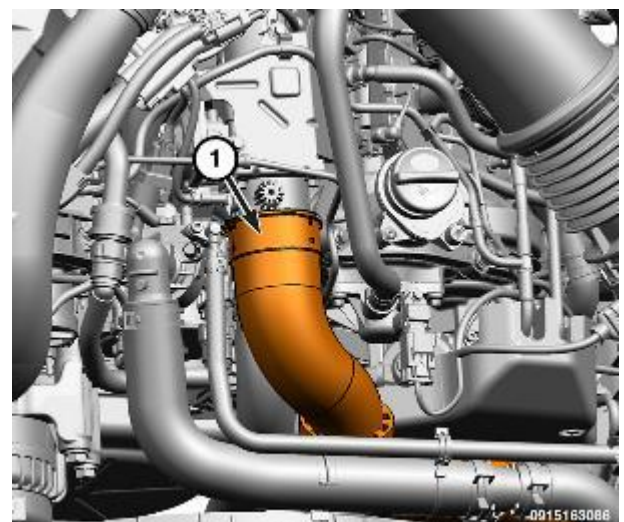

Figure 118 – CAC Hose Clip
50. Release the retaining clip (1) and disconnect the CAC hose from the EGR air flow control valve (Figure 118).